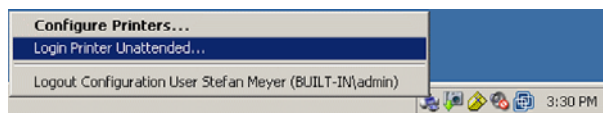

Figure 36 Define Logon for Print Service
- 1 Right-click the ECM Print Services toolbar icon and select **Login Printer Unattended**, see Figure 36 on page 139.